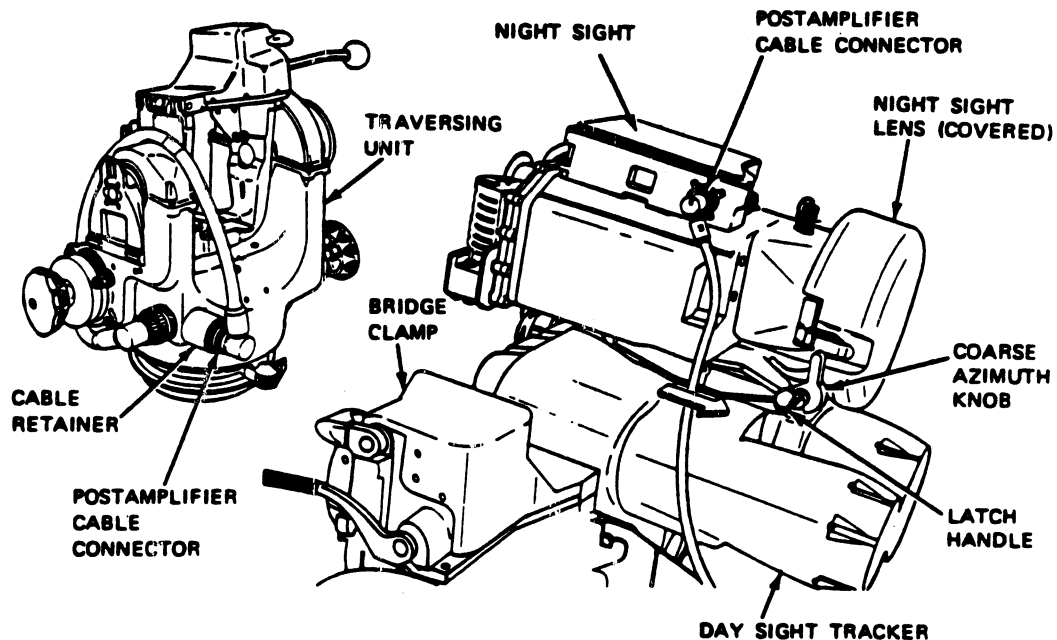

Fig 2-32. Installing night sight--continued.
Step 3. Place the night sight on the day sight tracker with the night sight lens facing forward making sure that it is seated securely. Move the latch handle toward the front of the night sight to lock it in place (fig 2-32). Make sure that it is secure before you let go.
Step 4. Remove the postamplifier cable connector from the cable retainer on the traversing unit (fig 2-32).